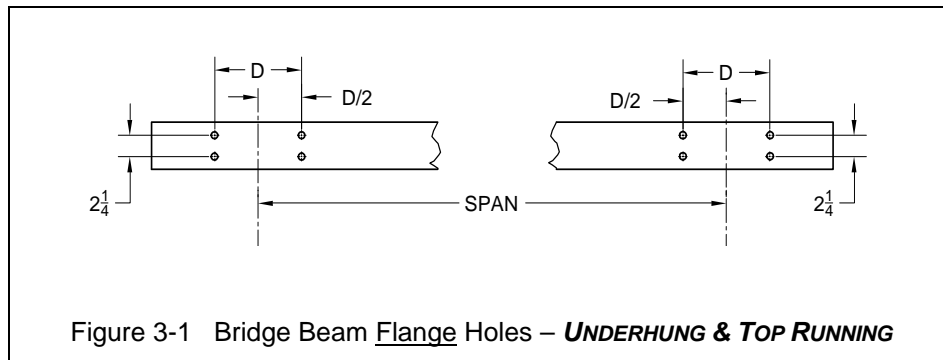

Figure 3-1 Bridge Beam Flange Holes – **UNDERHUNG & TOP RUNNING**
- **Underhung** – Drill eight 9/16” diameter holes through the top flange as shown in Figure 3-1. Drill four 9/16” diameter holes through the web as shown in Figure 3-2.
- **Top Running** – Drill eight 9/16” diameter holes through the bottom flange as shown in Figure 3-1. Drill four 9/16” diameter holes through the web as shown in Figure 3-3.